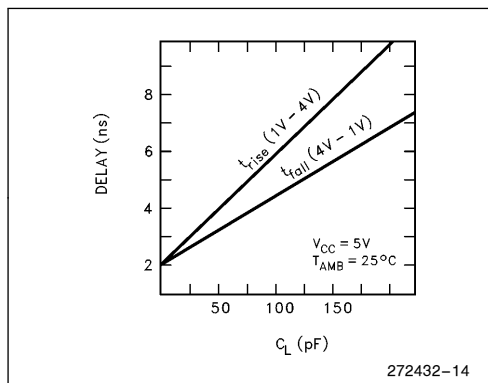

Figure 14. Typical Rise and Fall Variations Versus Load Capacitance
5. Specified for a 50 pF load, see Figure 14 for rise and fall times outside 50 pF.
6. See Figure 14 for rise and fall times.